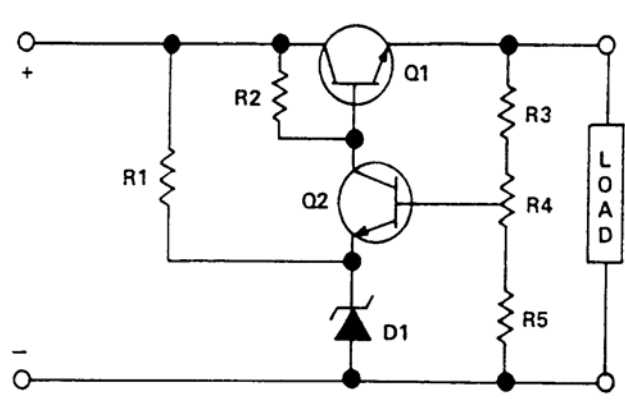

Figure P-3. Amplified Series Voltage Regulator
a. If D1 were to open (Figure P-3), R1 would lose most of its current flow and would decrease to a much lower value.